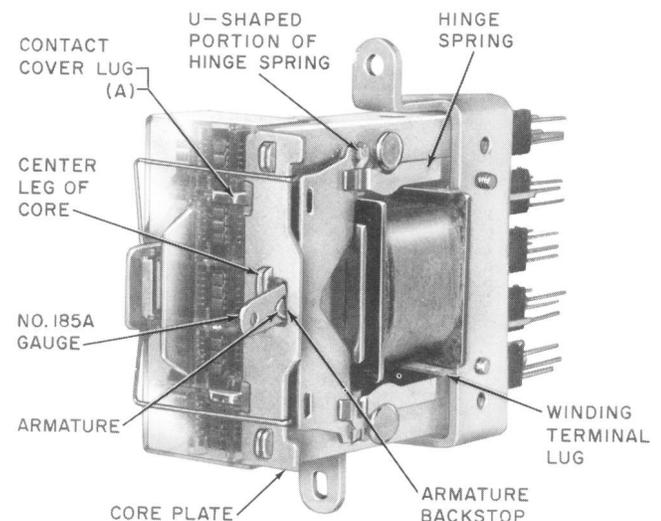
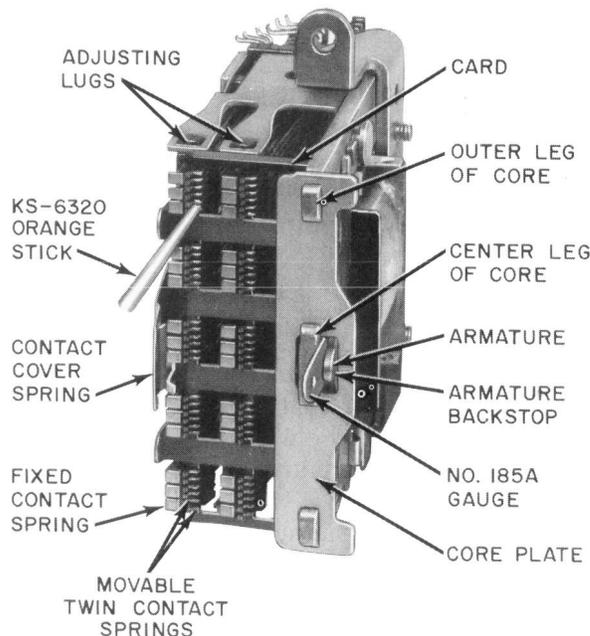

Fig. 3—Method of Checking Contact Make
Fig. 5—Method of Checking for Open or Closed Contacts
2.03 Contact Cover Position: Fig. 3(a) and 4
To check this requirement, first operate the relay electrically. Release the relay and insert the proper 185A gauge into the armature gap. Take care that the gauge is inserted so the shoulders of the gauge rest against the core plate of the relay as shown in Fig. 3. Electrically energize the relay and note whether the contacts are open or closed as required. In case of doubt, remove the cover and apply the KS-6320 orange stick to the tips of the twin contact springs. Attempt to move them toward their mating contact as shown in Fig. 5. Observable movement of either twin contact indicates that the contact is not closed. While making this check on the left-hand row of contacts, hold the contact cover spring clear of the adjacent molded block on the fixed contact springs if it touches this block.
(1) **Card** (Fig. 5)
(2) **Hinge Spring** (Fig. 3)